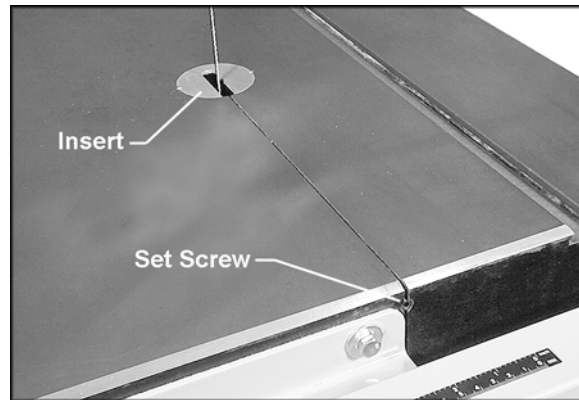

Figure 13
3. Remove the table insert (Figure 13).
4. Remove the set screw at the end of the slot (Figure 13) with a 4mm (or 5/32") hex wrench.